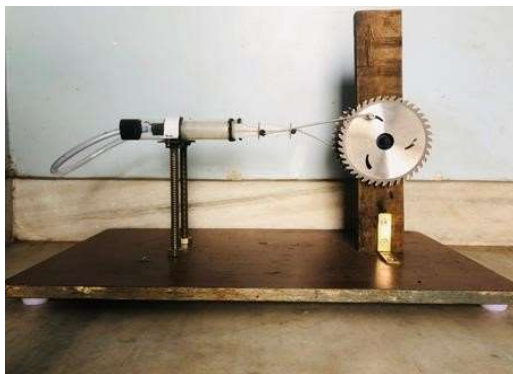

Fig.1 Side View
- 8) The two rotary wheels are connected by means of a shaft along with a bearing wheel to facilitate the rotation of wheel as shown in fig 1